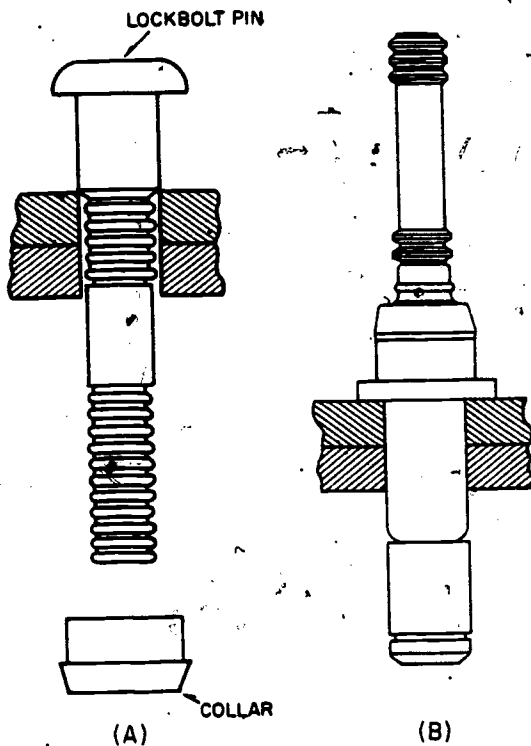

Figure 2-26 - Lockbolts
The lockbolt shown in figure 2-26 (A) consists of a pin and collar. They are available
The blind lockbolt shown in figure 2-26(B) is similar to the self-plugging rivet shown in figure 2-7. It features a positive mechanical lock for pin retention.